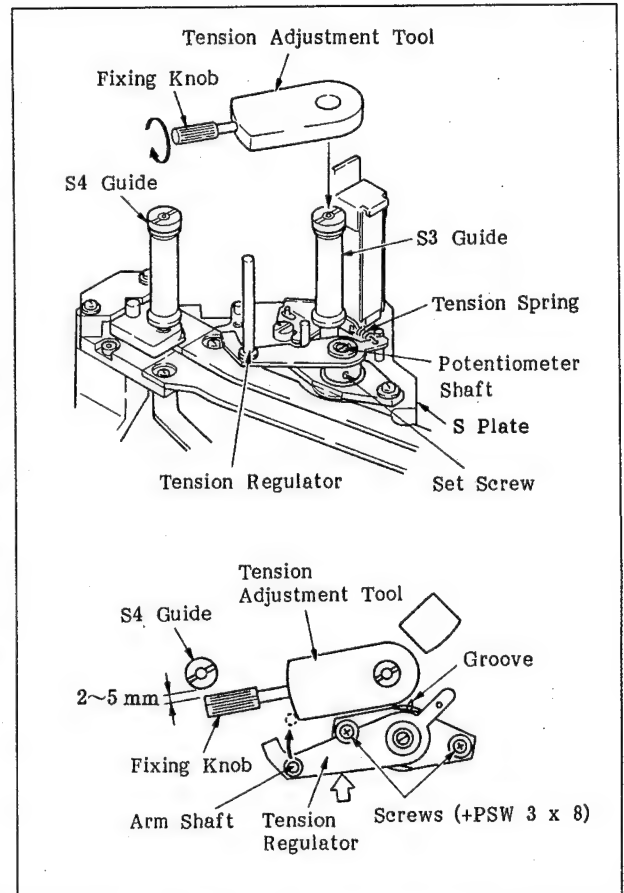

Fig. 9-6-1 Tape Tension Adjustment
3. Press the **F3** (C), the **4**, the **SET**, the **F6** (F), the **2**, the **SET**, and the **<** keys in that order to set the unit in threading condition without threading a cassette tape.
4. Loosen the two set screws (+PSW 3 x 8) that hold the tension regulator by one or two turns. Match the groove of the tension regulator to the groove of the S plate, as shown in Fig. 9-6-1 and then tighten the set screws.
5. Put the tension adjustment tool over the upper flange of the guide roller and tighten the fixing knob while pushing the tool down. (Fig. 9-6-1)
8. Rotate the potentiometer shaft clockwise slowly with a screwdriver and find the point where the indicated value of the digital voltmeter changes from the positive value to the negative value. Then obtain the central value (V) from the maximum value and the minimum value.
9. Push the position indicated by the arrow to push the arm shaft of the tension regulator against the tension adjustment tool, as shown in the top view of Fig. 9-6-1. Adjust by rotating the potentiometer shaft so that the indicated value of the digital voltmeter satisfies the following specification.
14. Loosen the two set screws (+PSW 3 x 8) that hold the tension regulator by one or two turns and then push the arm shaft of the tension regulator against the tension adjustment tool. (Fig. 9-6-1)
15. Adjust so that the indicated value of the digital voltmeter satisfies the following specification by inserting the screwdriver in the groove, shown in the top view of Fig. 9-6-1, and rotating it. If the adjustment cannot be made, repeat Steps 4 through 15.
18. Press the **[F7]** (\$), **[F7]** (\$), **[F1]** (A), **[8]**, **[9]**, **[0]** and **[SET]** keys on the control panel in that order. The following message will be displayed.
19. Push the arm shaft of the tension regulator against the tension adjustment tool, as shown in the top view of Fig. 9-6-1.